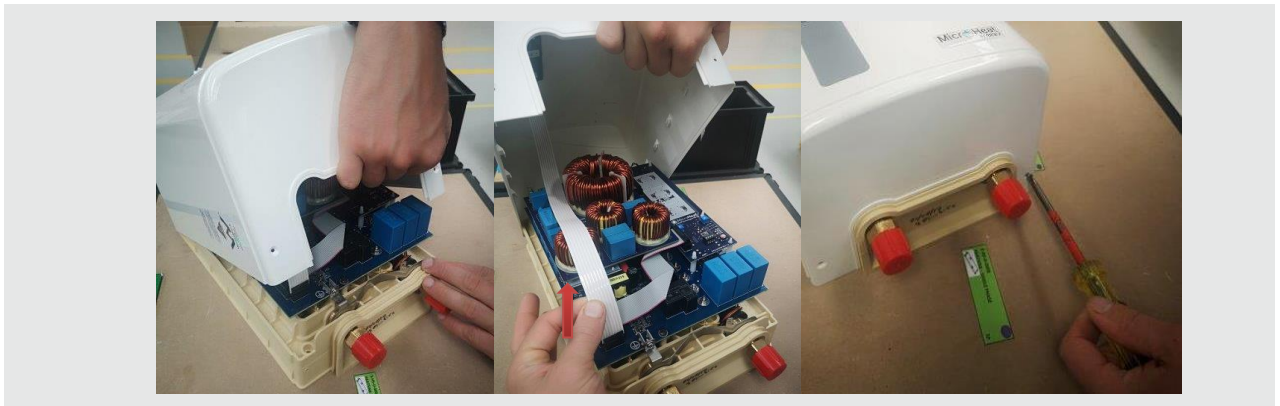
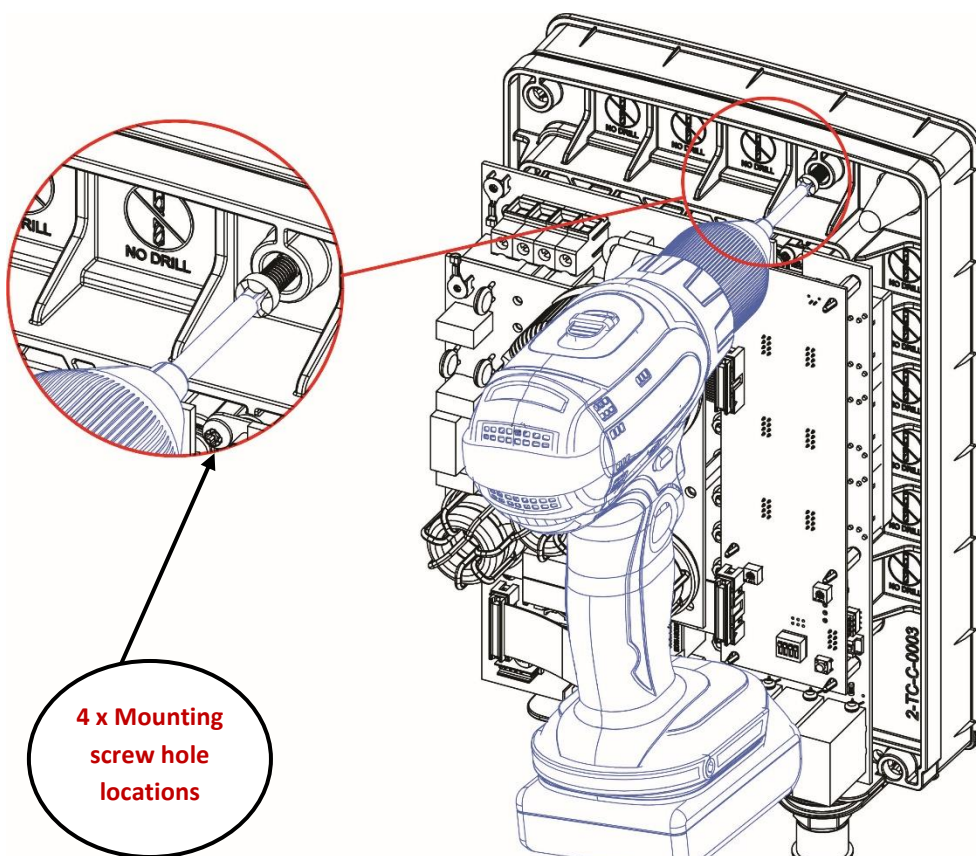

Figure 2 – Display PCB/LED Cable Disconnection & Cover Screw Replacement
Figure 3 - Mounting Screw Location
2. Carefully remove the Display PCB/LED plug and cable connecting either the Display PCB or Indicator LED on the outside of the Exterior Cover to the PCBA. See Figure 2.
The unit should be mounted onto a solid internal wall, or in an internal cupboard or space, preferably in the vertical position using the 4 x Mounting Screws (12) placed within the Mounting Screw Hole Locations as shown in Figure 3. Refer back page for screw-hole template and page (19) for CFEWH dimensions.
The Inlet (6) and Outlet (7) water connections are both ½" BSP SERIES GB. There are three options for inlet/outlet connections with this unit – see Fig 1, Fig 2, and Fig 3 below: